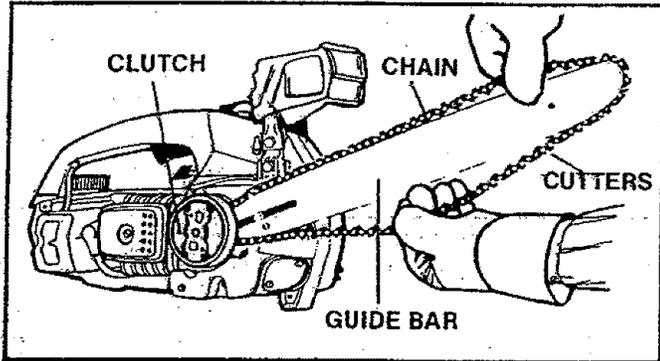

Figure 4
- e. Place the Guide Bar on the saw by fitting the long slot in the Guide Bar over the Bar Stud. Figure 4.